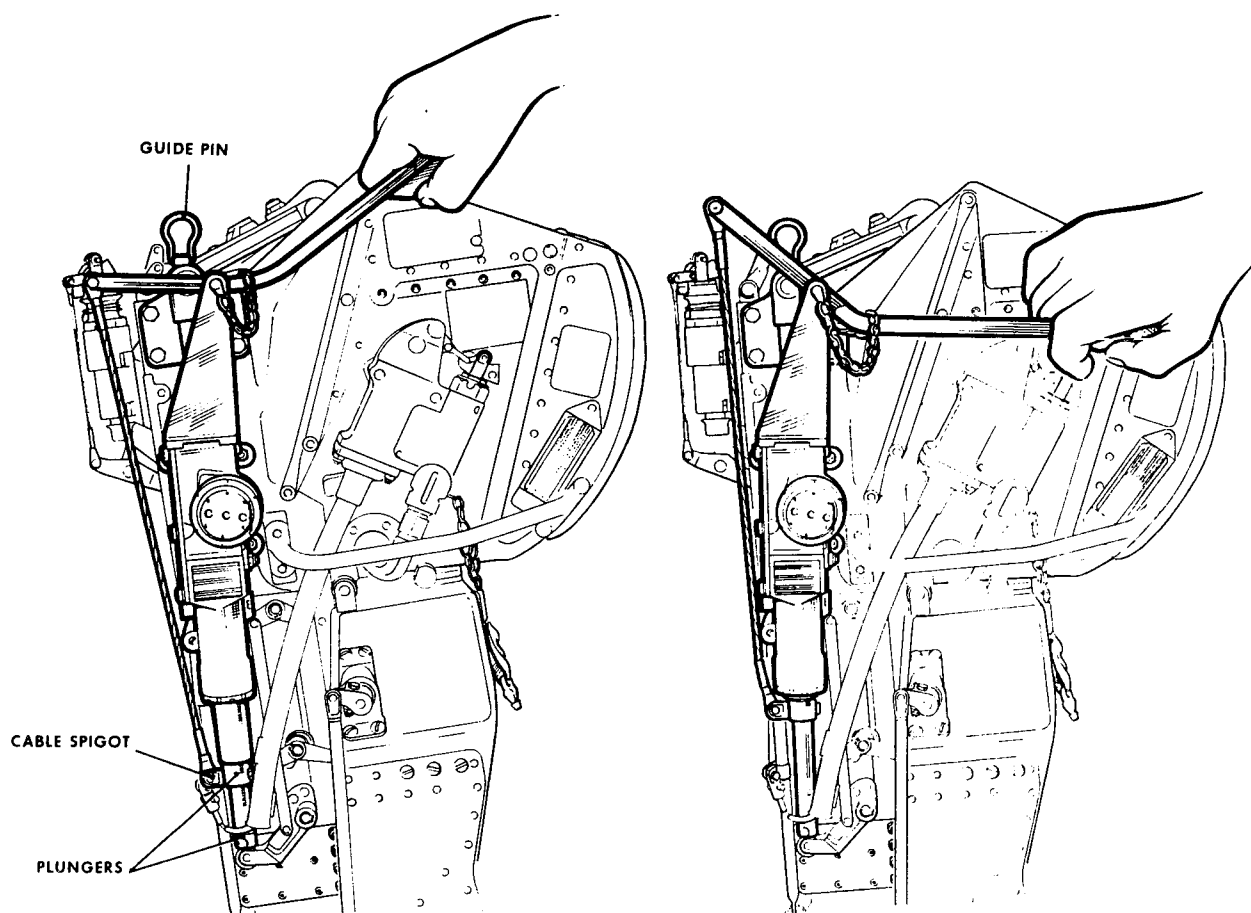

Fig 2 Re-setting the time-release mechanism
9.2 Position the appropriate cocking tool on the unit (fig 2).
9.4 Lock scissor shackle retaining plunger using guide pin attached to cocking tool (fig 2).